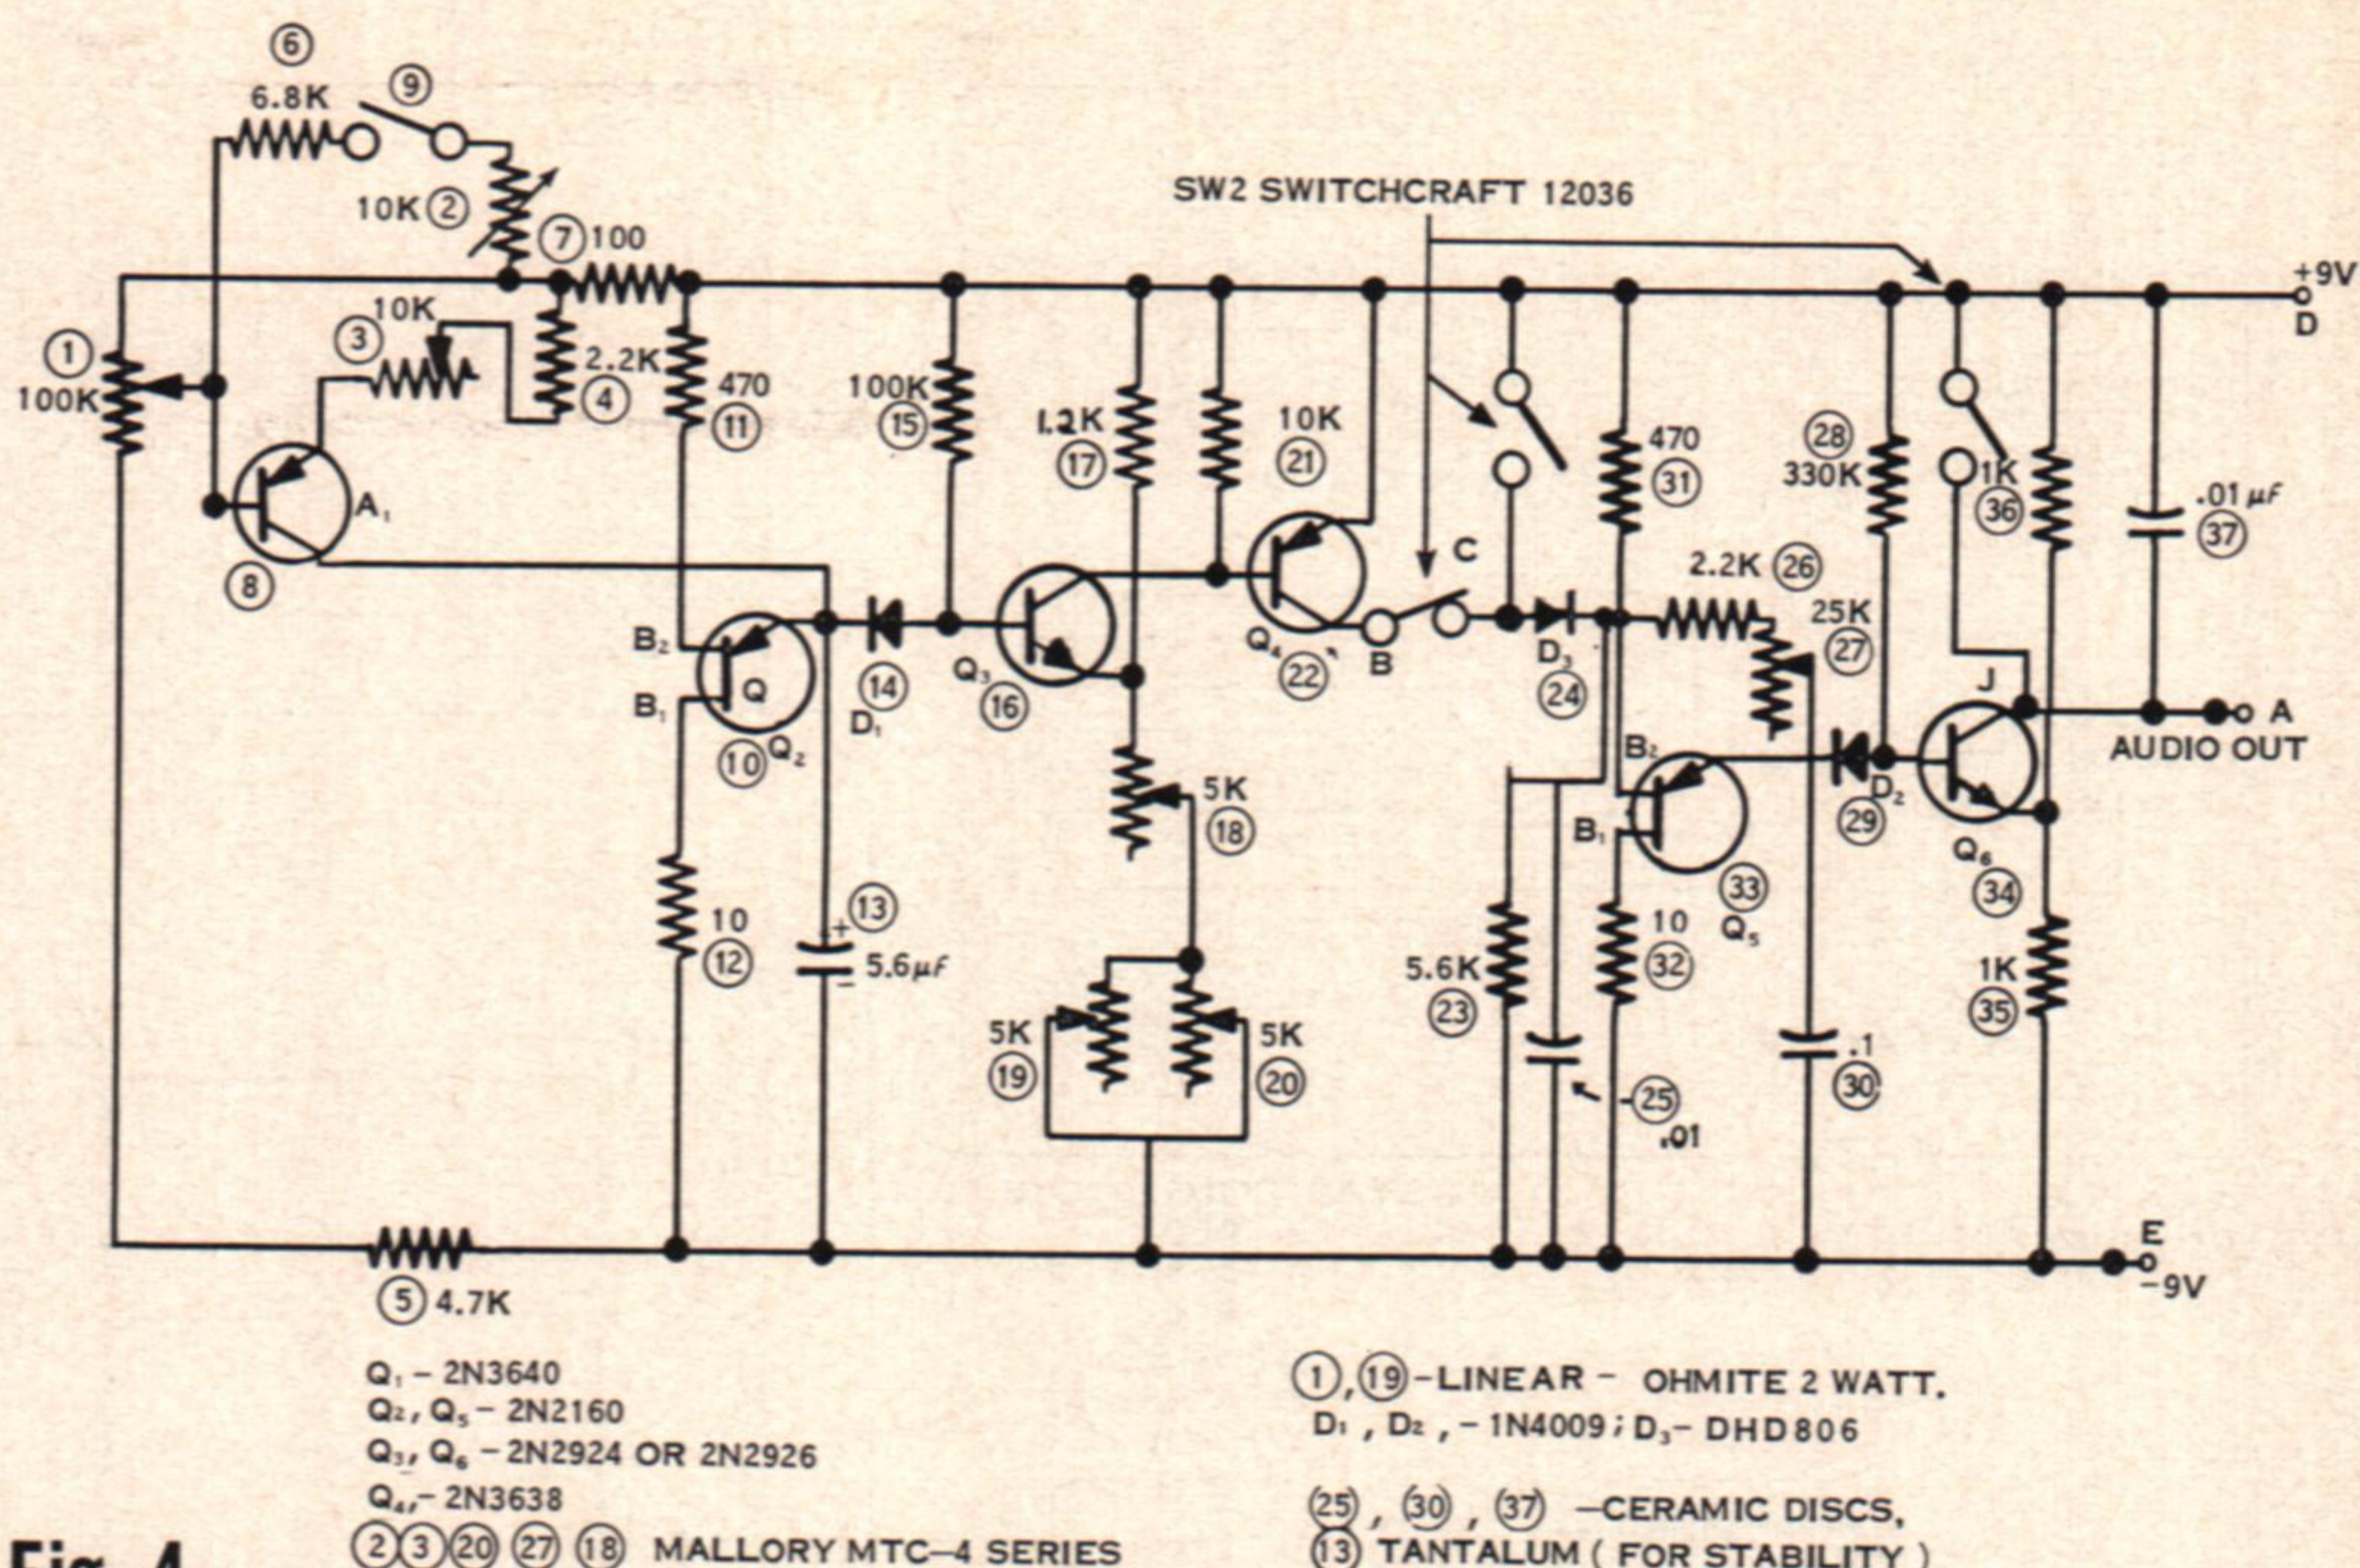
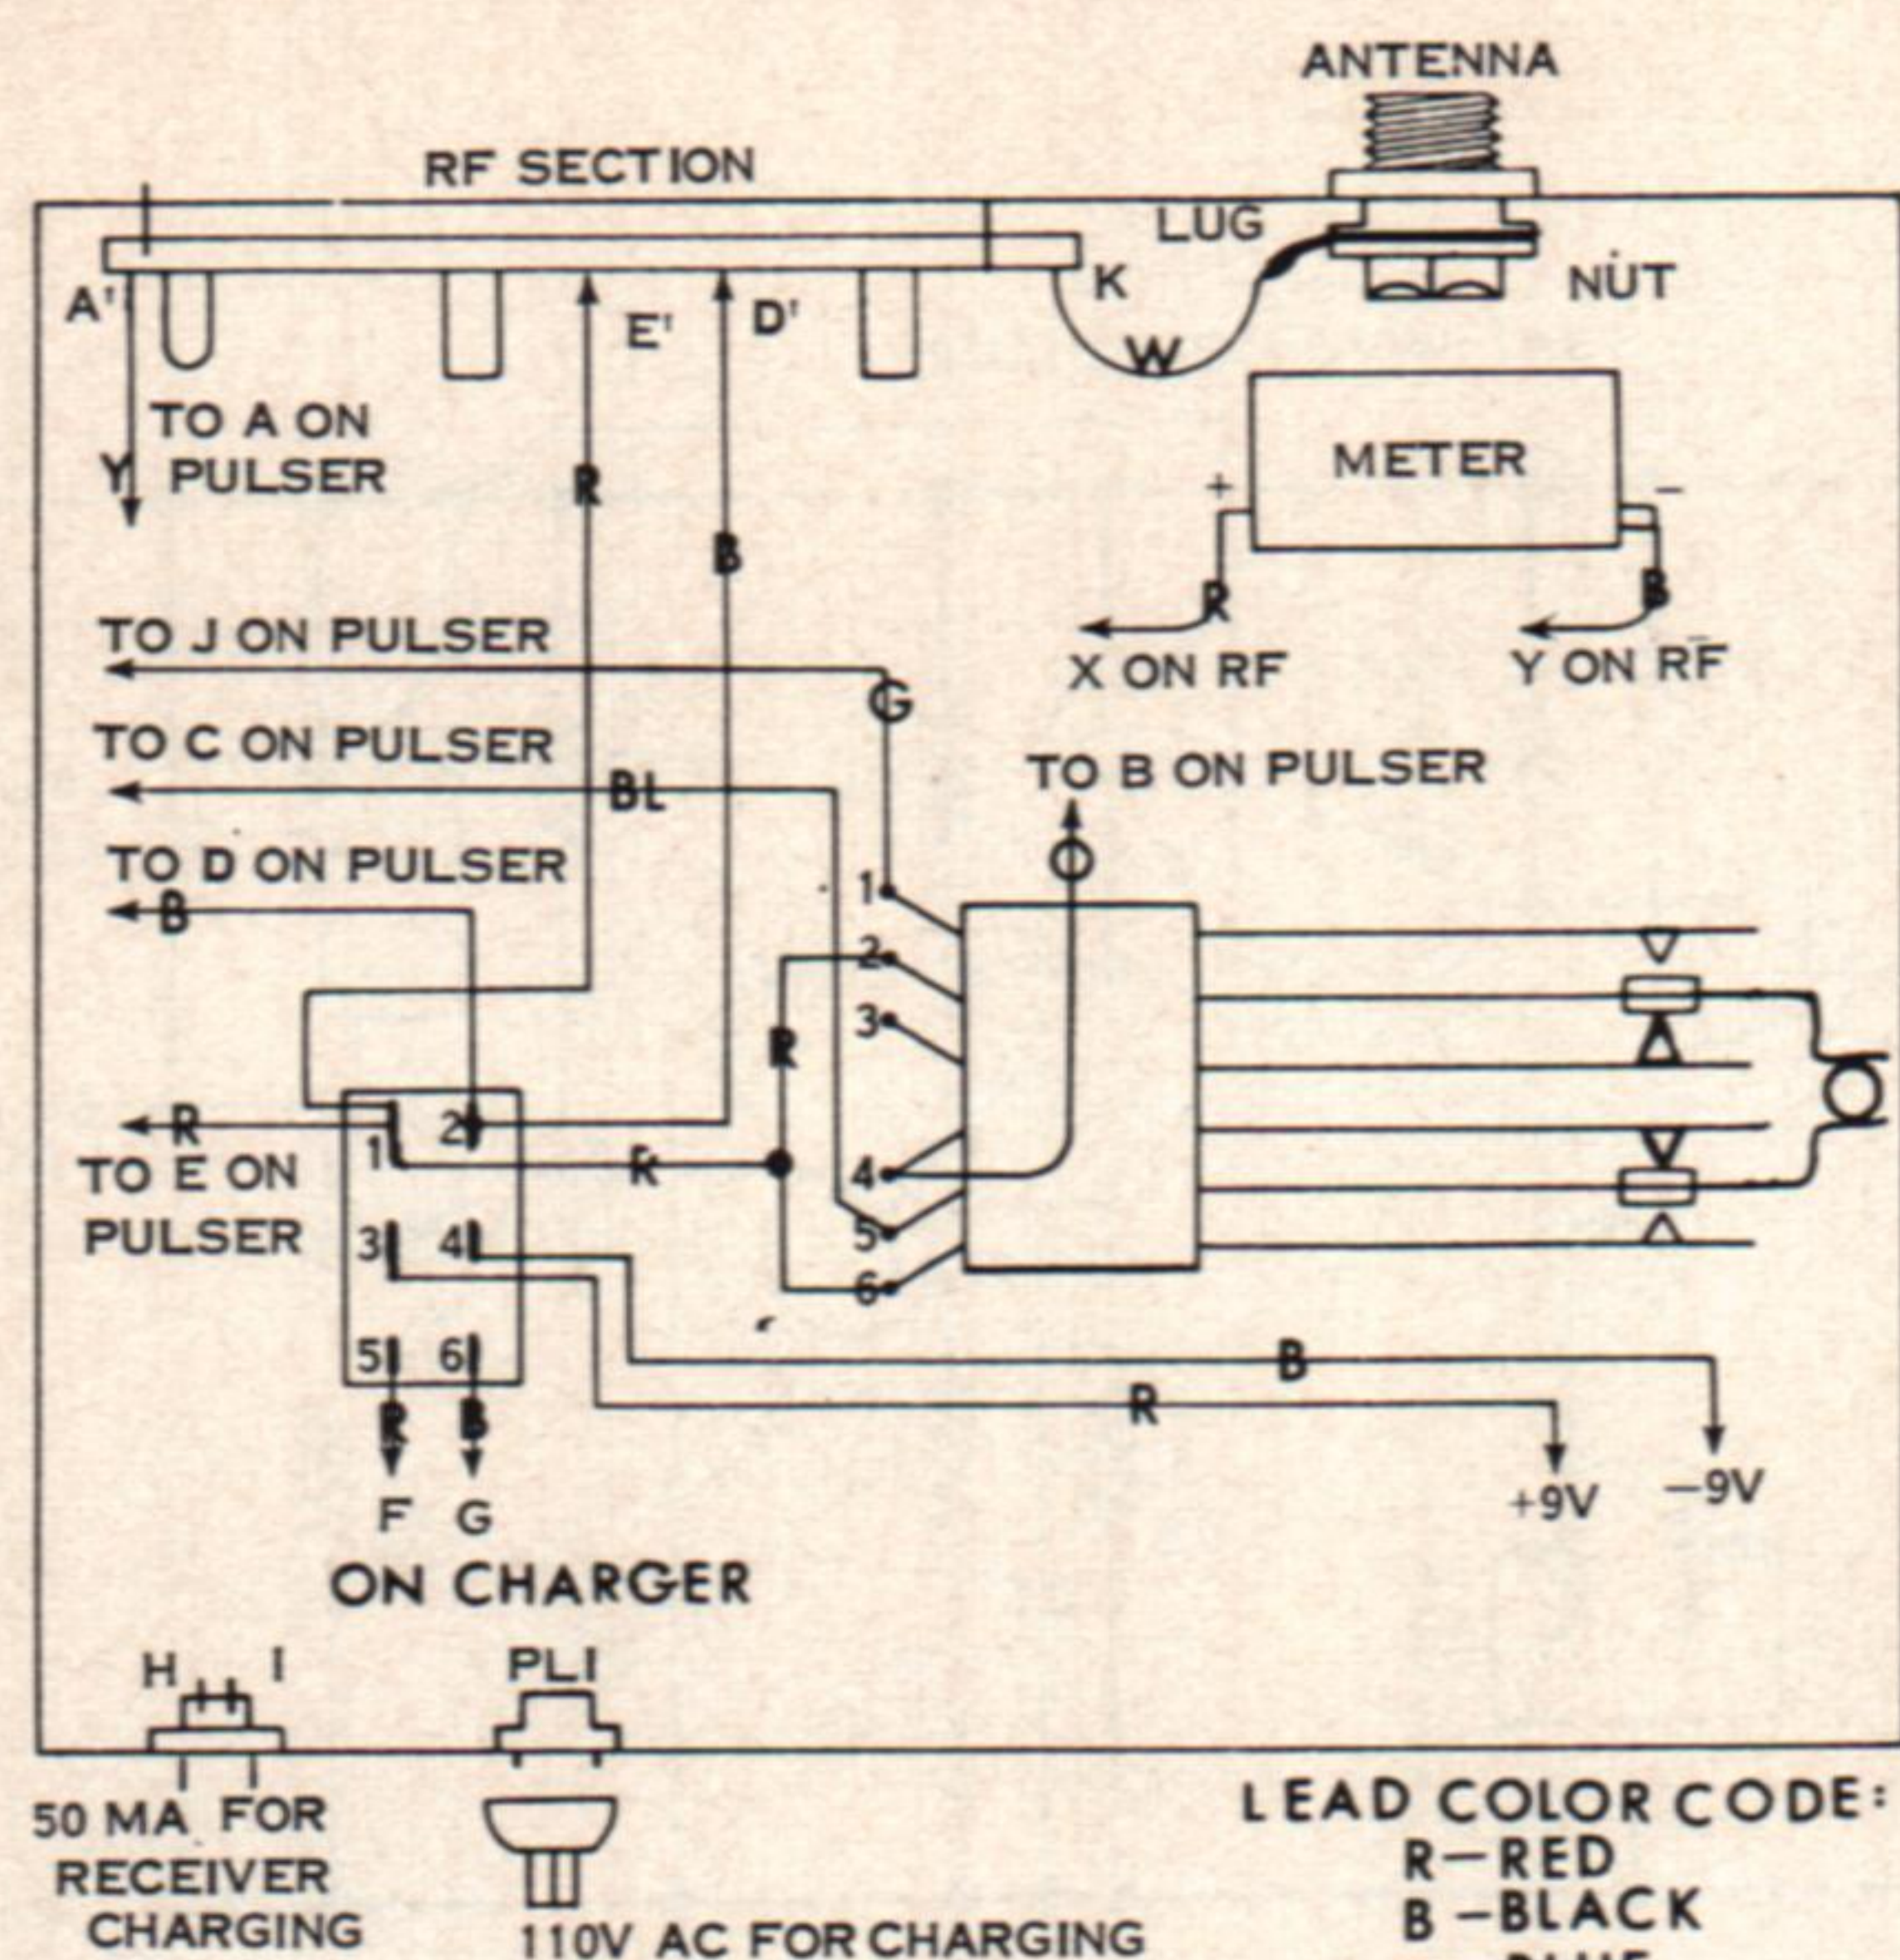

Fig. 4
Fig. 6
a) Assemble pulser/audio components according to Fig. 5, using the numbered sequence and referring to the schematic (Fig. 4) for component values. (Note: if you intend to build in the charger shown in Fig. 6, do not solder pots 1 and 19 with the stick assembly in place until so indicated.) If the charger is not going to be included, solder the lugs of the pots 1 and 19 to the pulser/audio board with the pots mounted in the stick assembly (Bonner Stick assembly shown).
The following precaution is very important: Before charging either your airborne or transmitter pack, check the charging rate by inserting a millimeter in the positive lead to the individual pack. If the charge rate exceeds the recommended rate, cut lead F (for the transmitter pack) or lead H (for the receiver pack) and install a potentiometer across the cut point temporarily. Adjust this potentiometer for the correct charge rate, measure resistance setting, and replace with the nearest-size fixed resistor. These resistors are shown in Fig. 6 as Rx.
a) Strip $\frac{1}{4}$ " from the end of the leads soldered to the PC boards earlier, tin, and solder the leads using the wiring and layout, Fig. 9. The battery leads go to lugs 3 and 4 of the DPDT on-off switch and the location and color coding of the leads are identified in Fig. 6 and on the PC boards. The lever switch shown is identified as SW-2 on Fig. 4. The transmitter case, upon which the components will be mounted, is bent from light gauge sheet aluminum. The front case layout is shown in Fig. 7. The back cover is simply a U-shape, $7\frac{3}{4} \times 6\frac{1}{2}$ with $2\frac{3}{8}$ flanges.